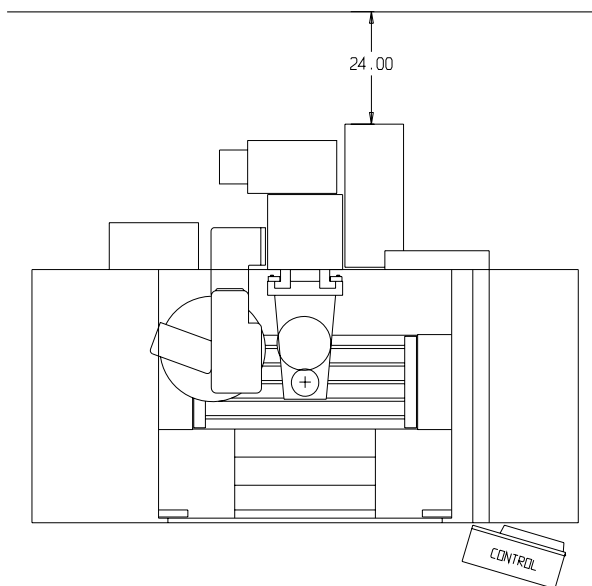

Figure 2-3 24" Minimum Clearance Behind VMC
- 2) Ensure there is adequate room behind the VMC to fully open the rear cabinet door. Minimum clearance behind the machine is two feet (24"/ 60.96 cm.) (See Figure 2-3).